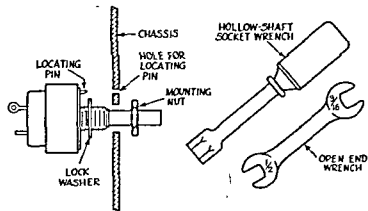

FIG. 13-15. Mounting the volume control.
5. Slip the replacement control through the chassis hole, using a lock washer or locating pin, as shown in Fig. 13-15. If there is no hole for the locating pin, bend it down if it is metal or snap it off if it is bakelite. If this is not done, the locating pin will force the control at an angle when the nut is tightened up, either damaging it or giving the control erratic action. Tighten the mounting nut with an open-end wrench. An open-end wrench marked $\frac{1}{2}$ in. on one end and $\frac{9}{16}$ in. on the other will handle most volume-control mounting nuts. A hollow-shaft socket